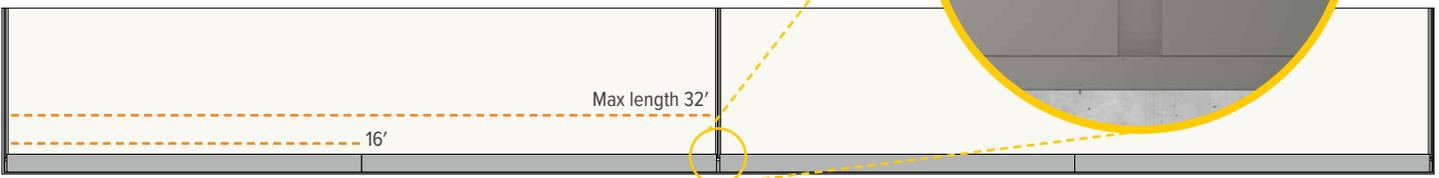

Figure 18.3
14. The two piece mid-wall vertical is used to allow room for Plank expansion when the maximum Plank length exceeds 32'. (Mid-wall vertical allows for Plank expansion) (**WARNING** max plank length is 32'). (Figure 18.3)